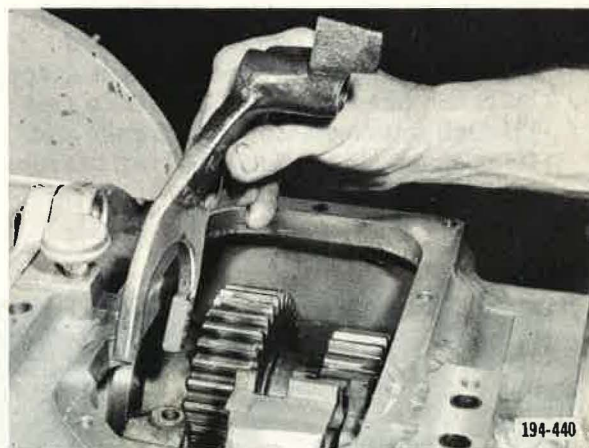

Figure 68. Installing First Speed Shifter Fork
4. Install first speed shifter fork on first speed sliding clutch. See Figure 68.